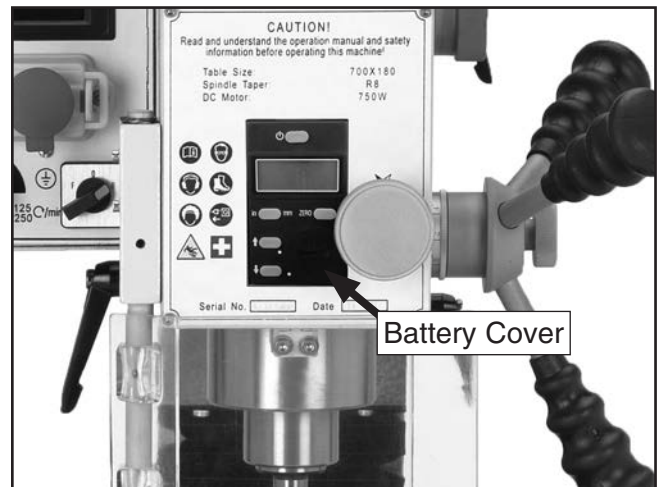

Figure 57. Battery replacement.
1. Use a wide (#3) standard screwdriver or the edge of a coin to remove the battery cover (**Figure 57**).